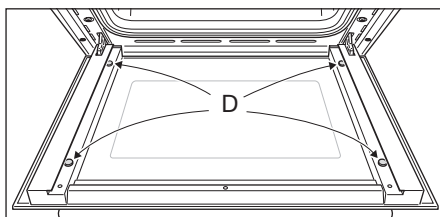

Fig. 6.10
- Check the correct positioning of the no. 4 (four) silicon rubbers **D** (fig. 6.10).